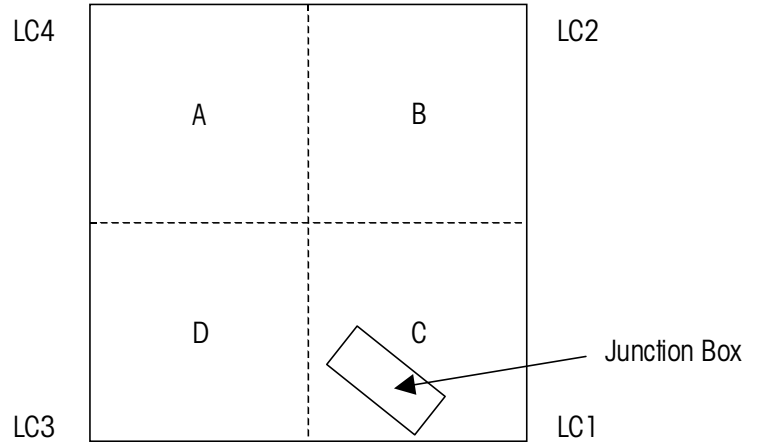

Figure 4-2: Test Weight Locations
- Figure 4-2 shows test weight locations (A, B, C, and D) at the center of each quadrant of the scale platform. Place a test weight (equal to half the rated scale capacity) at location A and record the weight reading. Then move the test weight to location B and record the weight reading. Continue until you have taken a weight reading at each of the four locations.
- Place the test weight at the location immediately clockwise from the location at which you got the lowest weight reading. Then adjust the trimming potentiometer for the load cell that corresponds to the corner of the scale where the test weight is positioned (see Figure 4-2). Make the adjustment by turning the potentiometer until the weight reading matches the lowest reading.